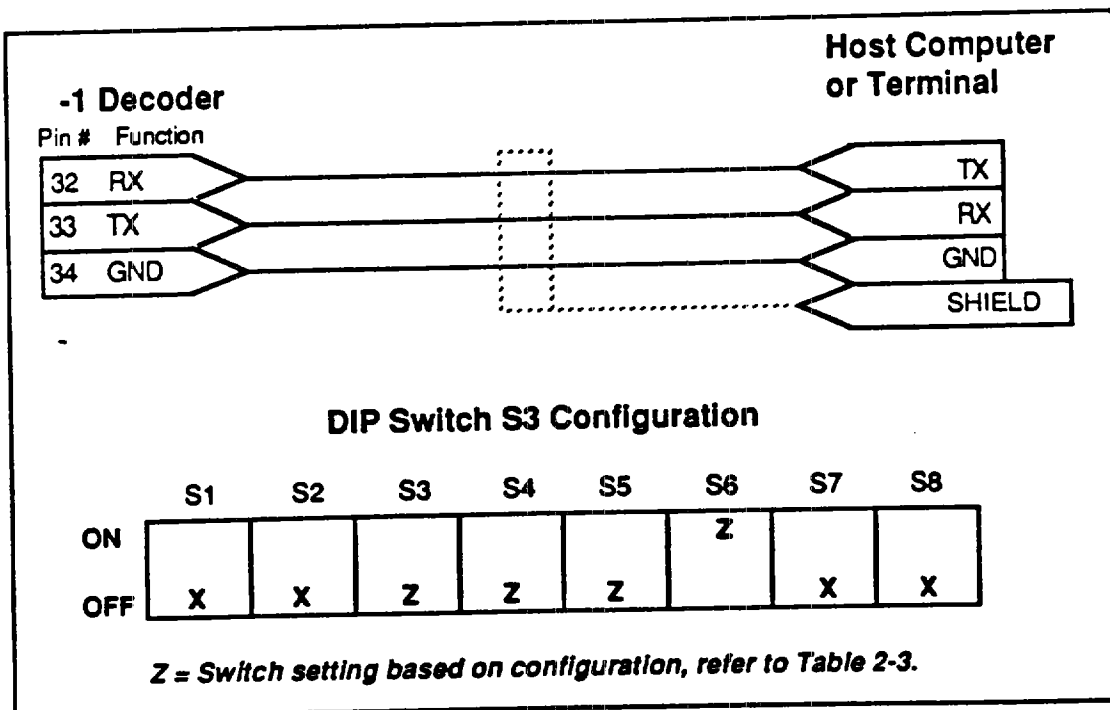

Figure 2-4. RS-232C Serial Communication
This interface communicates serially (with ASCII characters). The 3-wire interconnect and proper DIP Switch settings are shown in Figure 2-4. *Do not change the jumper settings (maintain factory default settings).*
1. Be sure that power is not applied to the system. Remove the cover from the AL decoder and set the DIP switches (refer to Figure 2-4). Put the cover back on the unit before proceeding.
2. Connect the interface from the decoder box to the computer/terminal using the instructions shown in Figure 2-4.